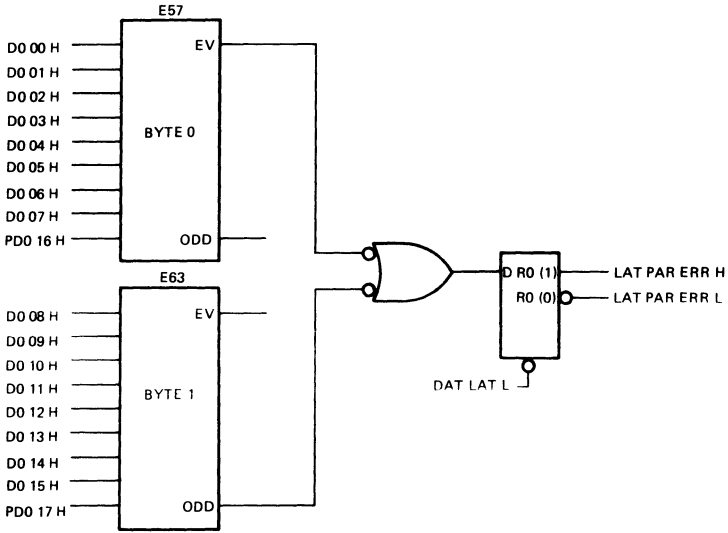

Figure 19-21 Parity Detection
**Parity Checking**—The MSV11-L memory modules detect, report, and save the address of parity errors. Parity detection logic (Figure 19-21) on reads expects byte 0 to have an even number of 1 bits and byte 1 to have an odd number of 1 bits. If this does not happen, a parity error is detected. The parity error signal is call LAT PAR ERR.